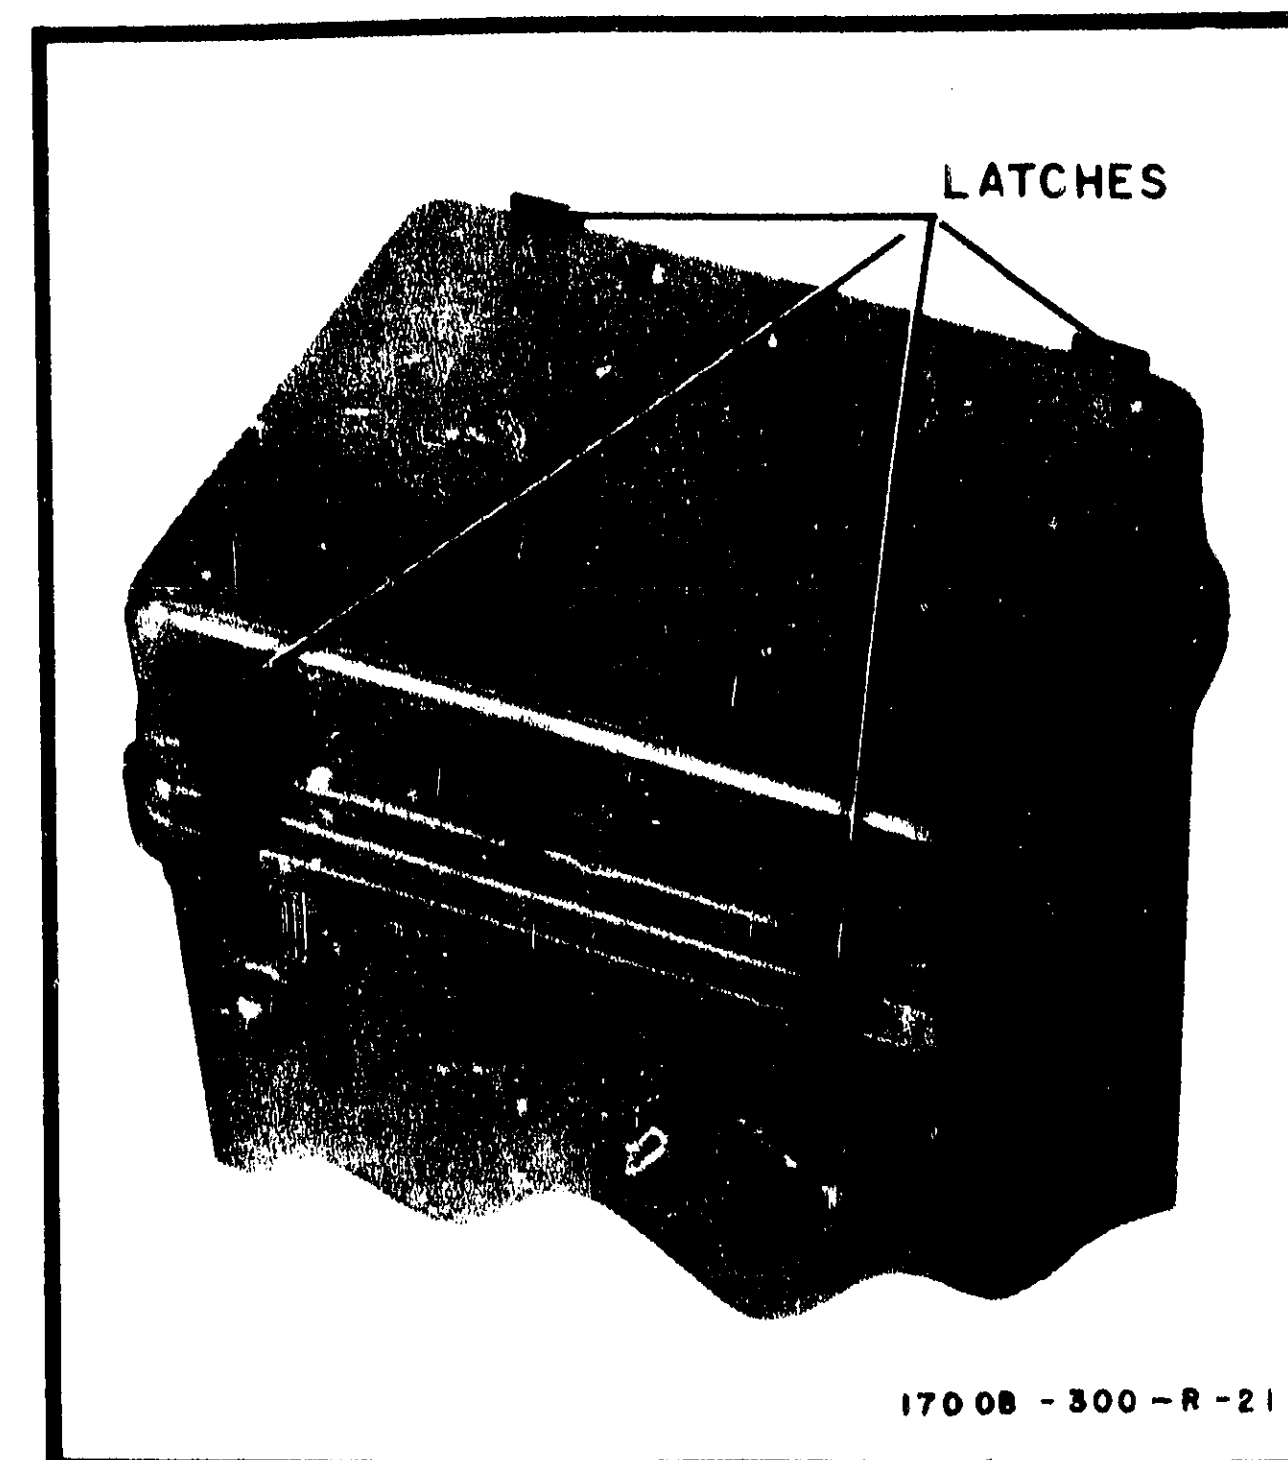

Figure 2-2. Option 300 Latches
d. Unfasten latches (figure 2-2) and remove storage cover from carrying case.